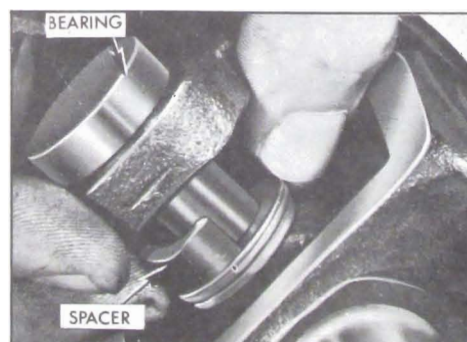

Figure 6-96—Installing Spacer
4. Release the pump and remove the propeller shaft. Install Spacer J-9522-5 over the spider journal at the space provided with the bearing forced partially through the link yoke. See Figure 6-96. Reposition propeller shaft in fixture as before and force with the added assistance of the Spacer.